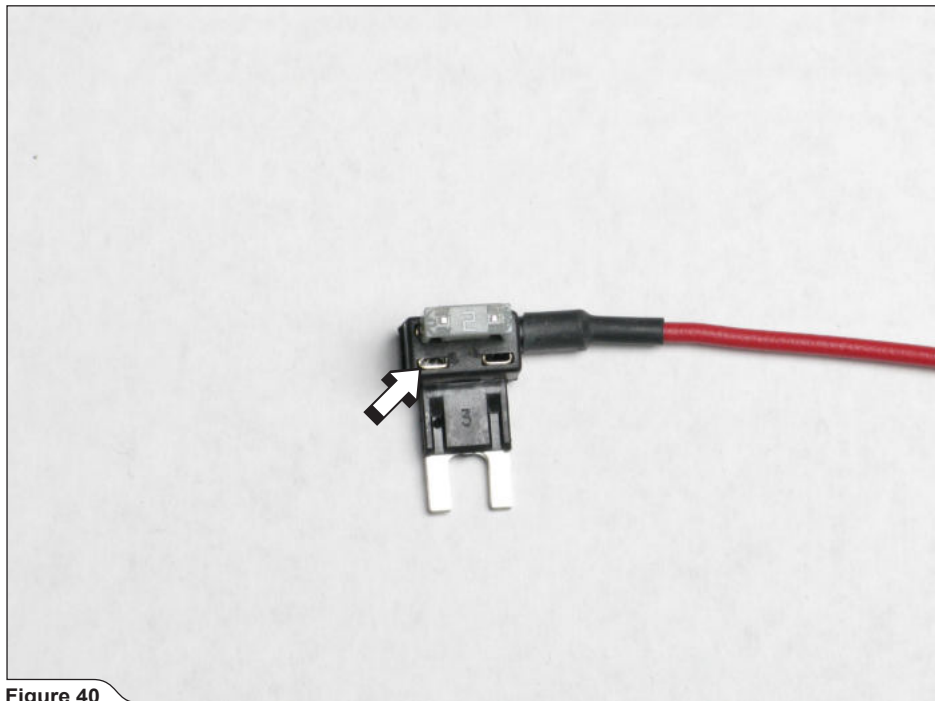

Figure 40
27. **For fuse box powered Wireless only:** insert the 20A fuse into the empty transmitter's fuse connector (Figure 40, 41).